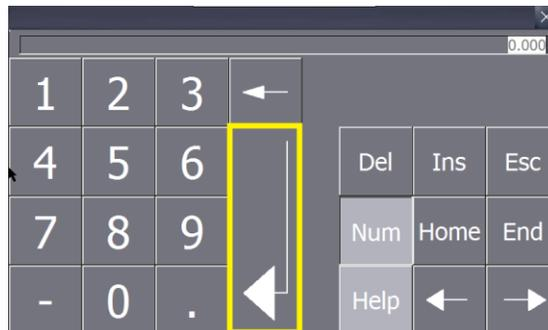

Figure 7-8 Edit Parameter Value & Press Enter
- b. To adjust a parameter, press its white **value field**, enter new value using **number keys**, and press the **Enter** button which is outlined in yellow in Figure 7-8 below.